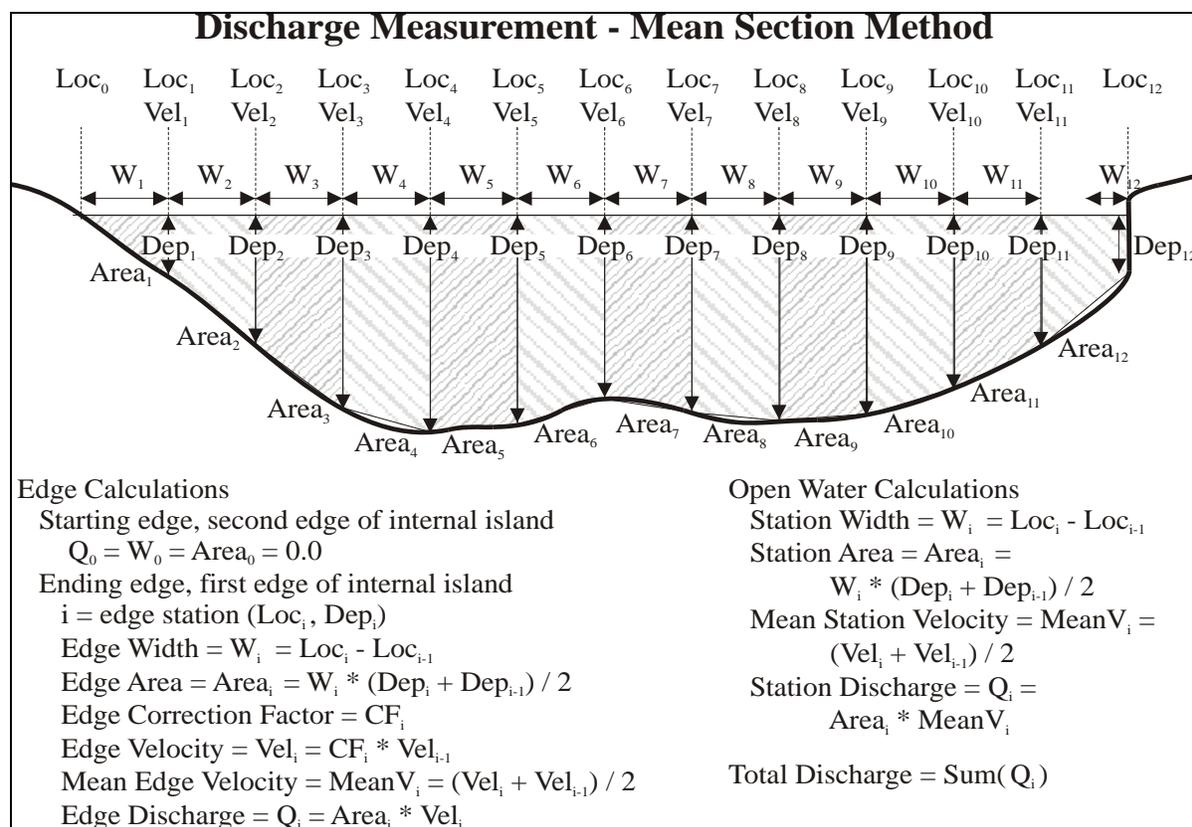

Figure 6 – Mean Section Discharge Equation
- **Figure 6** shows the **Mean Section** equation. In this figure: